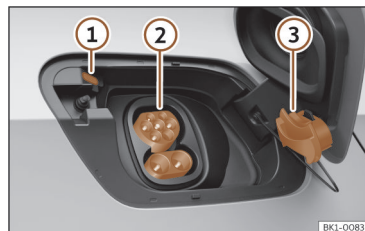

Fig. 58 Behind the battery charging cover on the rear right-hand side.
- Remove the protective cap and hang it on the hook >>> **Fig. 58 ③**
- Plug the charging station's charging connector into the charging socket >>> **Fig. 58 ②**
The LED (charging process indicator) of the charging socket flashes or flashes white >>> **Fig. 58 ①** >>> page 79
The charging process indicator on the charging socket ① flashes green >>> **Fig. 58**.
- Tap the **Stop charging** function button on the infotainment system display. The charging process indicator located next to the charging socket ① lights up white >>> **Fig. 58**. The charging connector is unlocked.
- Place the protective cap on the charging socket's lower connection >>> **Fig. 58 ③**
① NOTICE